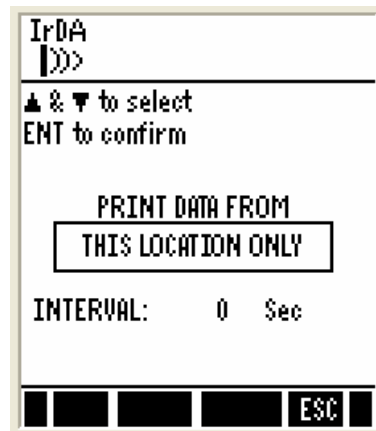

Figure 29 : Selecting options for printing memory locations
4. Press **PRIN (F2)**. The screen appears for you to select printing options (Figure 29). This allows you to choose either all memory locations or the current memory location for transfer.